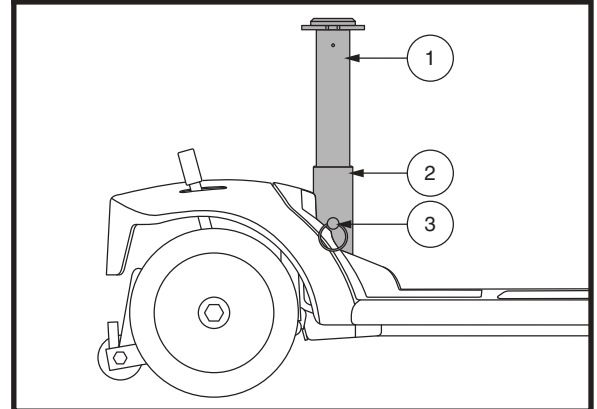

Figure 29. Seat Height Adjustment
The seat can be repositioned to different heights. **See figure 29.**
2. Remove the upper seat post from the Travel Scooter by removing the detent pin from the lower portion of the seat post, then lifting the post straight up and off the Travel Scooter. See figure 29.